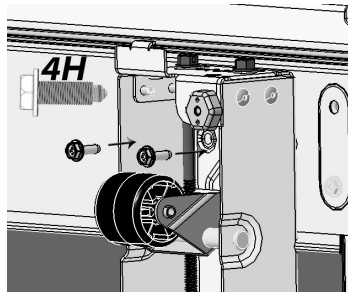
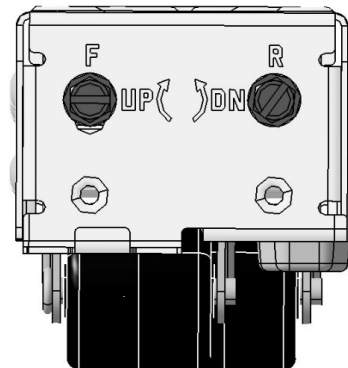

Fig. 4
Fig. 5
- Using the 4H bolts from step 1, fasten the front of the Leveler Assembly to the refrigerator/freezer using a  $\frac{5}{16}$ " nut driver (Fig. 4). If more fastening space is required, rotate the bolt labeled **F** clockwise (Fig. 5) using a flathead screwdriver or a  $\frac{3}{8}$ " socket wrench.